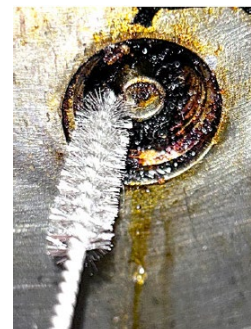

Figure 1
2. Use the AIF/ATO cleaning brush (8263841) to clean the probe (see Figure 1). Use caution to ensure that the probe is not damaged.